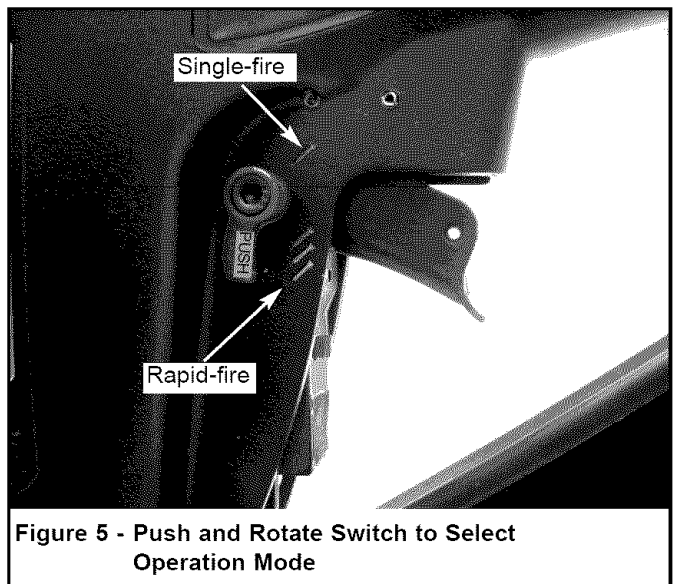

Figure 5 - Push and Rotate Switch to Select Operation Mode
- The tool is equipped with a rotating switch that can be set to rapid-fire or single-fire mode (see Figure 5). When the switch is set to single-fire mode, the tool will not drive a second fastener until the trigger is fully released and pulled again.